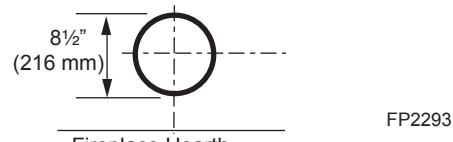

Figure 21 -
- Combustible Exterior Walls:** Cut a 10½" x 10½" square hole through the exterior wall frame. *Figure 21*
- The center of the hole should align with the center line of the horizontal rigid vent pipe end. Allow 1/4" minimum rise per foot. *Figure 21*